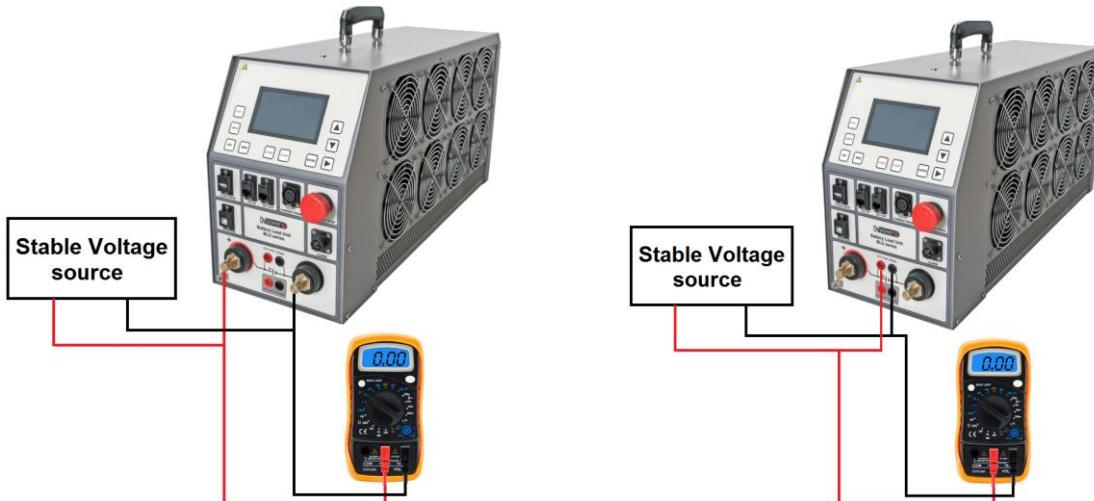

Figure 8-1: Connection of BLU device for DC voltage measurement check.
1. Connect a DC voltmeter to BLU device for voltage measurement check of current terminals channel, as shown in the Figure 8-1.a.
4. Repeat the same procedure from points 1-3 for measurement check of VS channel (Figure 8-1.b)